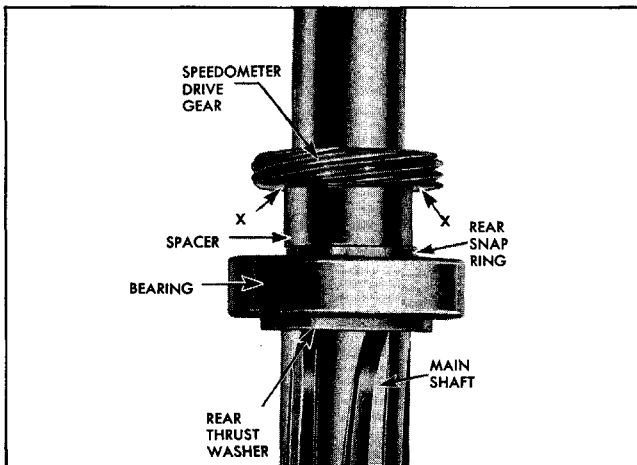

Fig. 7-28 Main Shaft Assembly Construction
a. Remove speedometer drive gear from shaft by supporting gear at "X" (Fig. 7-28) and pressing out shaft.